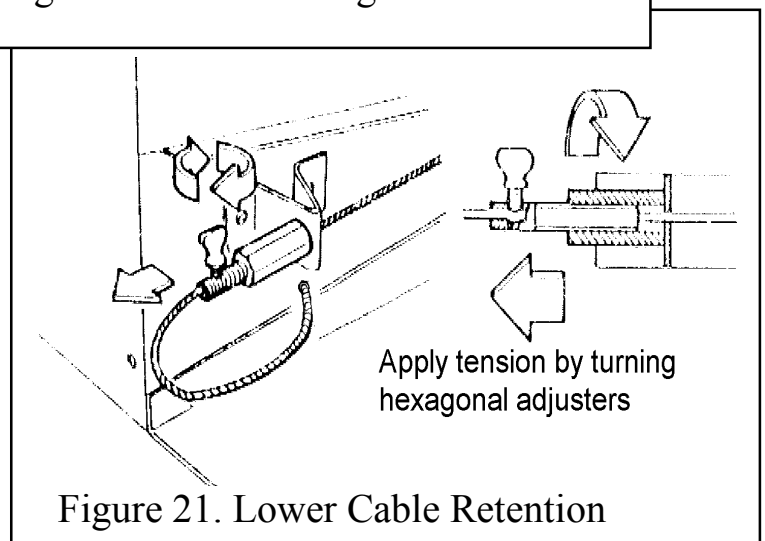

Figure 21. Lower Cable Retention
11. Pull each cable taut. Push the cable retainers hard up against the “V” brackets. Tighten the screws in the retainers so that they clamp the cables in position. Apply tension to the cables by turning the hexagonal adjusters by hand. See figure 21.